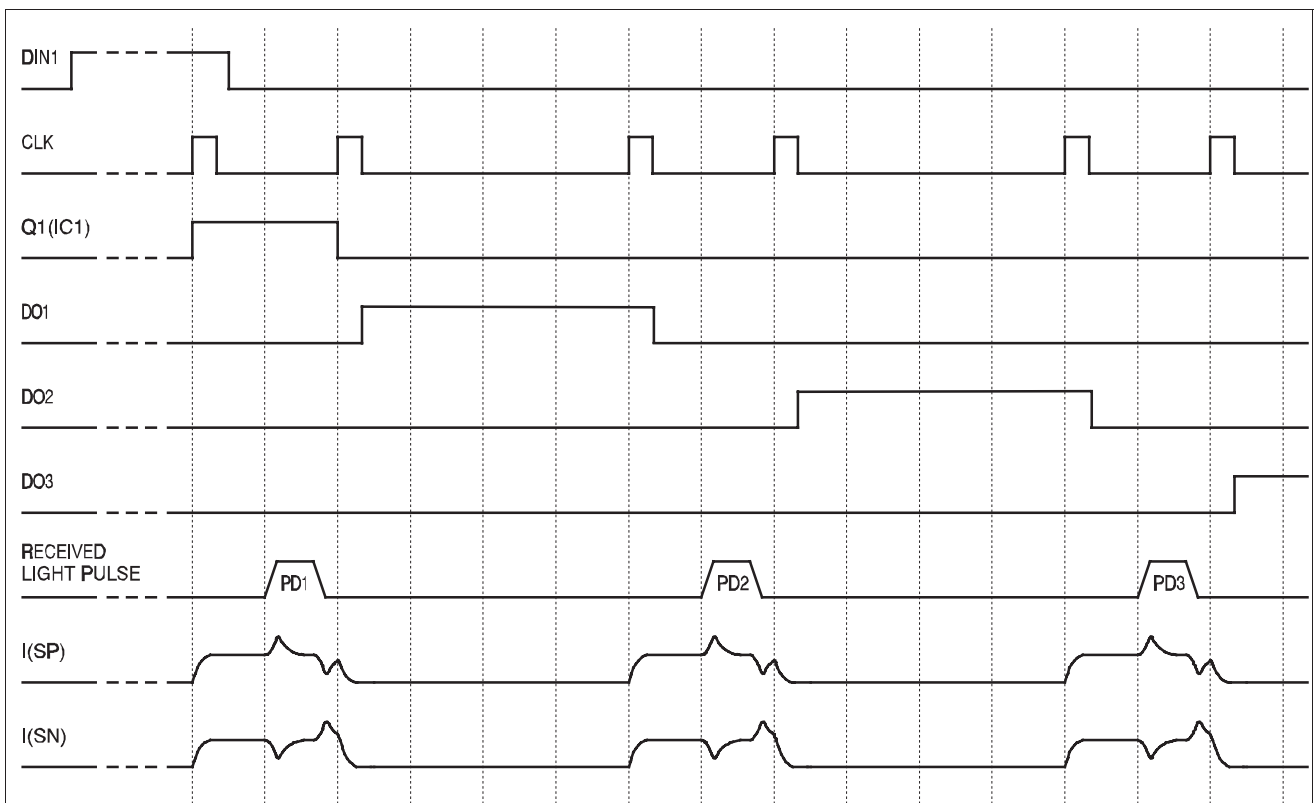

Fig. 7: Signals for the chain configuration of Fig. 6
Current is drawn from PD (IC1) by a light pulse on the photodiode PD1, and the currents at outputs SP and SN react as shown in Figure 7: I(SP) rises and returns to the initial value with a time constant determined by the